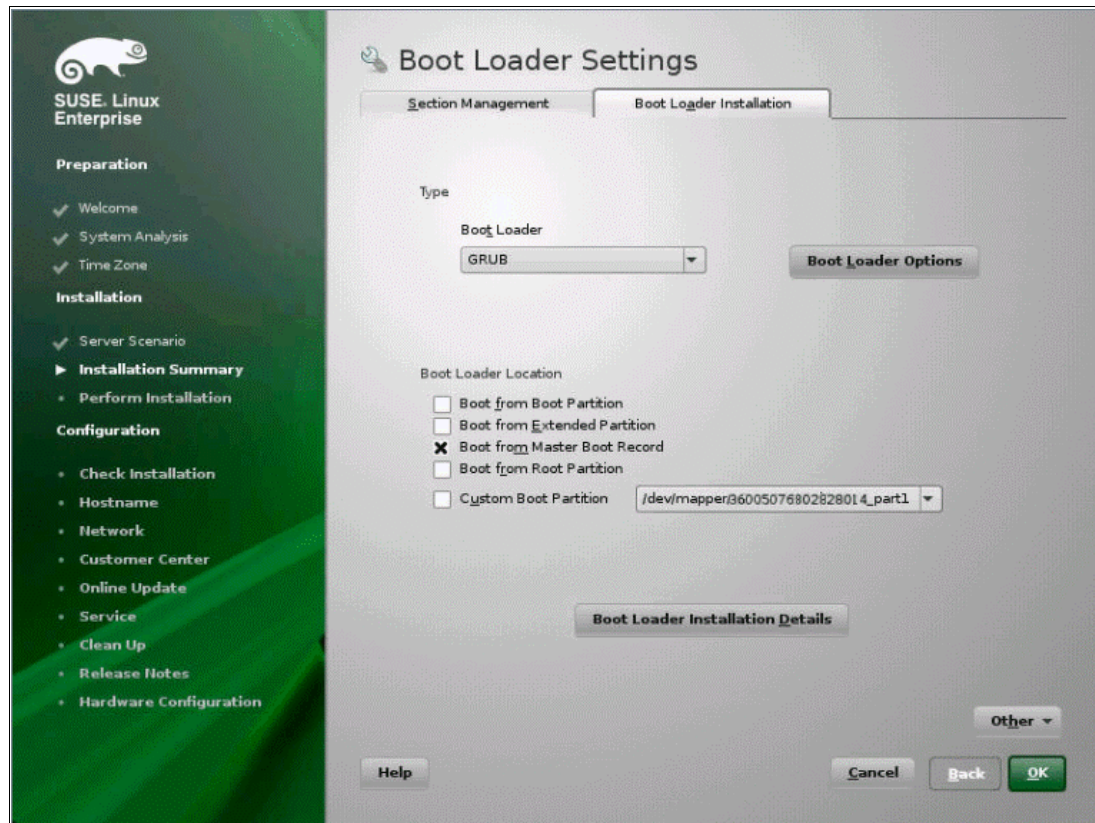

Figure 5-105 Boot from MBR
14. Change the Boot loader to reflect the multipath partitioning changes. Click the **Boot** option, **Boot Loader Installation**, and then click **Details**, as shown in Figure 5-105.